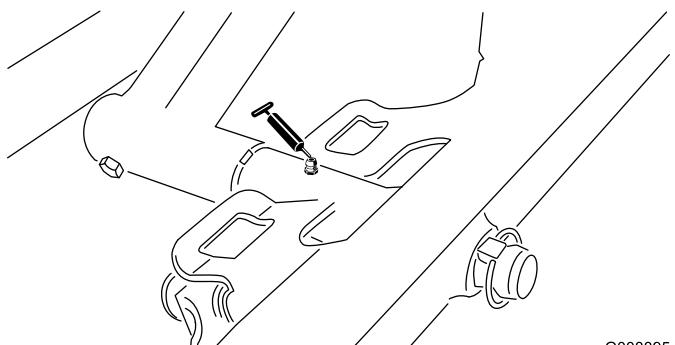

Figure 45
- Front cutting unit pivot (Figure 45)